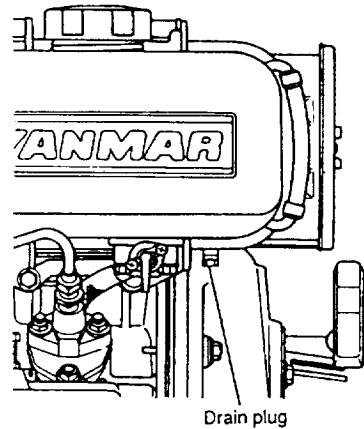

Figure 6-79 Fuel tank assembly
- (2) Fuel. Open the drain cock and run out a small amount of fuel since water and other contaminants settle on the bottom (see Figure 6-79).